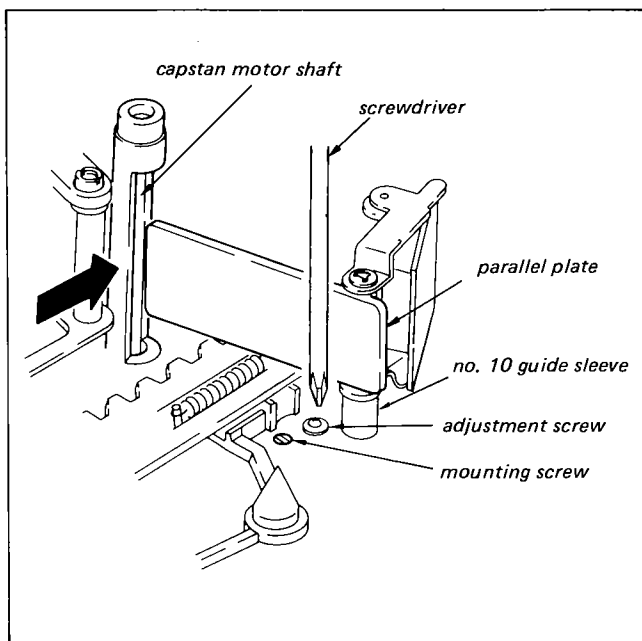

Fig. 4-16.
- 1) Set the parallel plate (SL-0657 in the list of fixtures and tools) up against the No. 10 guide vertically, as shown in Fig. 4-16.